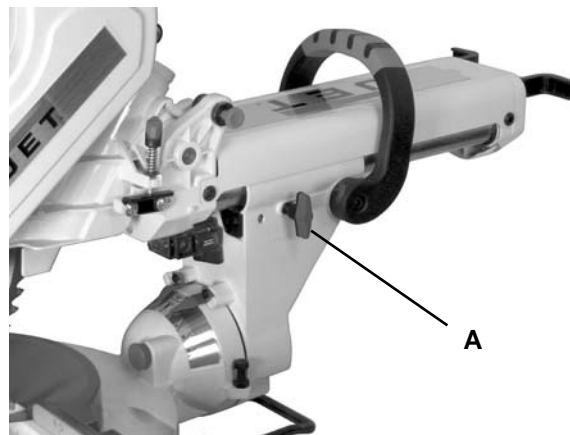

Figure 25
- ❑ For a chop cutting operations on small workpieces, slide the cutting head assembly completely toward the rear of the unit and tighten the *carriage lock knob* (A, Fig. 25).
- ❑ To cut wide boards up to 12-1/4 in., the *carriage lock knob* (A, Fig. 25) should be loosened to allow the cutting head to slide freely.